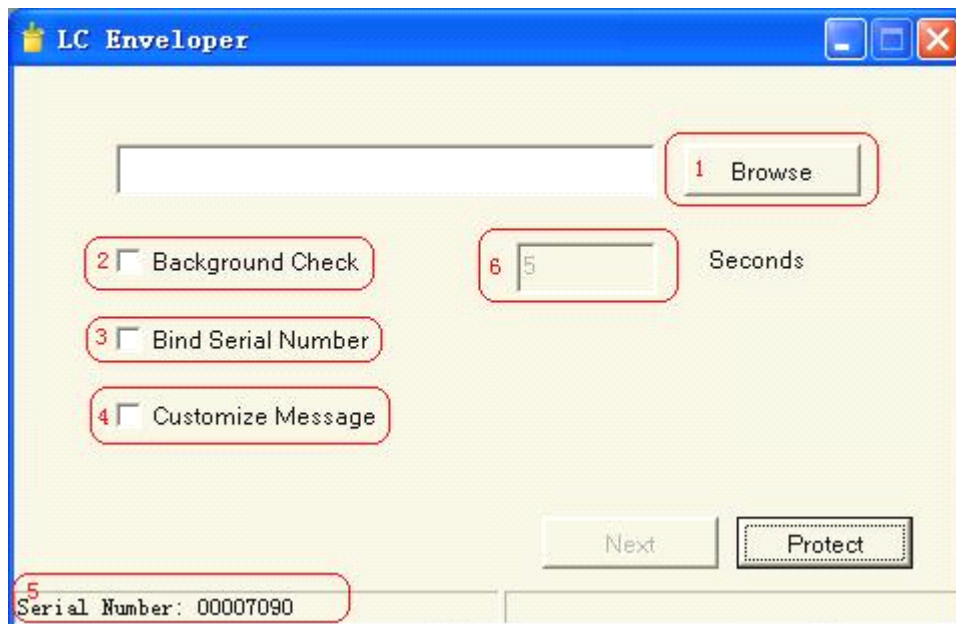
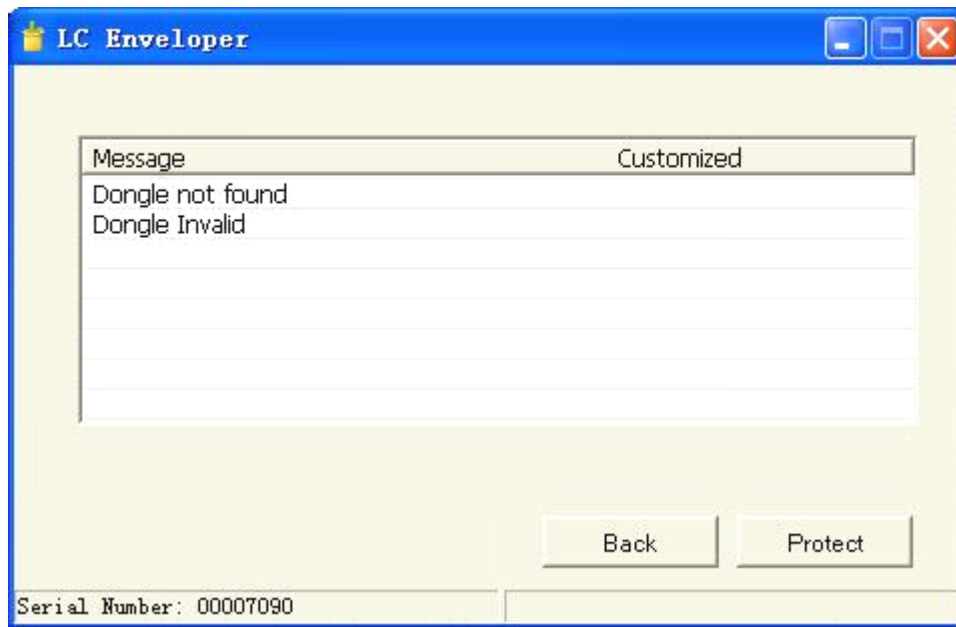

Figure 7-1
Figure 7-3 Customize Message
- (1) Plug in LC device.
- (2) Launch LCEnveloperGui.exe as showed in Figure 7-1. Serial number will be showed in square 5.
This is an optional item. If you hope shelled software bind to specific device, which means shelled software only can be executed while the associated device is connected, you should tick Bind serial number in Figure 7-1. Software A/B/C are 3 copies of a software and they are connected with Key A/B/C. The Keys have a same Developer ID while their hardware serial numbers differ. The shelled software can only be executed normally with Key A on the condition that bind serial number is ticked when shelling exe file of Software A with Key A. If bind serial number is not ticked when shelling, the shelled software can be operated normally with all 3 Keys.
This is an optional item. Tick square 4 in Figure 7-1 to activate Next button showed in Figure 7-3. Reminding messages can be customized and saved that will show up when the software launches.